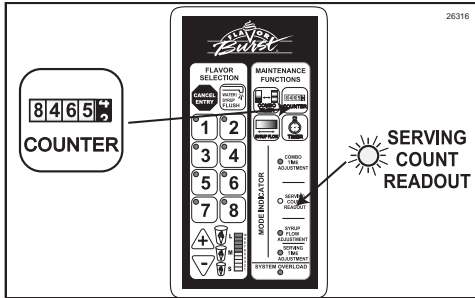

Figure 171
1. Press and hold the COUNTER key for three seconds until the SERVING COUNT READ-OUT light is illuminated. (See Figure 171.)